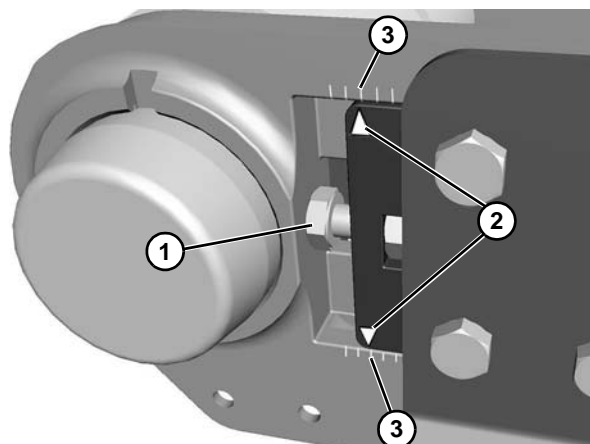

Figure 35
1. Tighten bolts (Figure 35, item 1) on each side to take up tension. Align the same arrows (Figure 35, item 2) and marks (Figure 35, item 3) on each side of the conveyor to keep the tail straight.